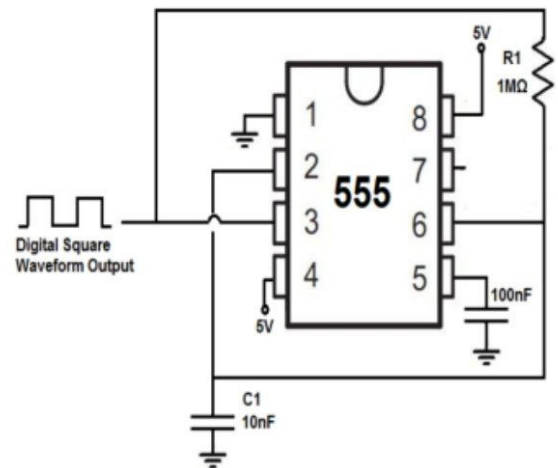

Fig. 1: Connection in 555 timer circuit
- 1) I assembled the 555 timer circuit based on the configuration shown in fig 1